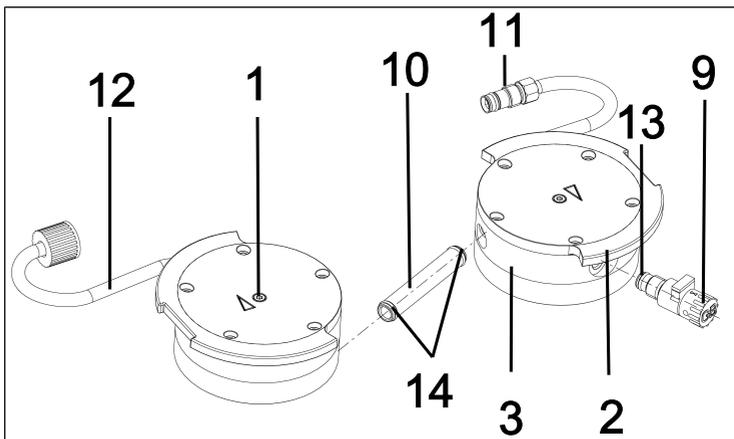

Fig.28: Changing O-rings
- Pull the connection tube (10/ Fig. 28) out of the head plate (3).
- Replace the two O-rings (14) on the interconnection tube (10/ Fig. 28).
4. Loosen the internal head screw (1) on both pump heads.
5. Remove the two pressure plates (2) together with the two internal head screws (1).
6. Unscrew the gas ballast (9/Fig. 28) from the head plate (3).
7. Replace the O-ring (13) on the gas ballast (9/Fig. 28).
8. Screw the gas ballast (9/Fig. 28) into the corresponding head plate (3) as far as it will go. Then turn it back again until the surface is oriented upwards.
1. Remove the head plate (3) from the intermediate plate (6).
2. Remove the old valve plates/seals (4).
3. Carefully clean the intermediate plate (6) (if there are deposits on it).
4. Insert the new valve plates/seals (4) into the corresponding seats on the intermediate plate (6).
6. Dispose of the replaced valve plates/seals (4) properly.
7. Insert the connection tube (10/Fig. 28) back into the head plate (3).